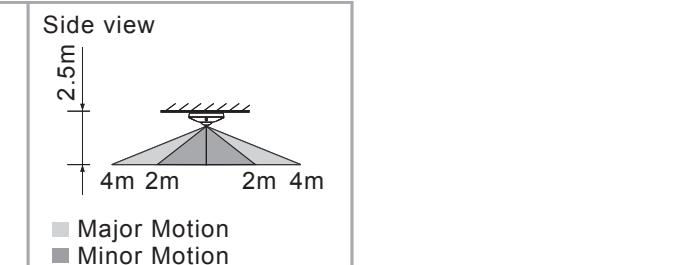

FIG.2
- The detectors can be installed at the height of 2.5m and the height of 2.5m is recommended to gain the optimal detection pattern. The detection range can reach up to the diameter of 8m and 360° detection angle (See FIG.2).